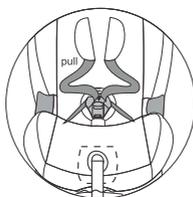

Fig.9
- Important: Do not pull the belt pads when doing so. (Fig.9)